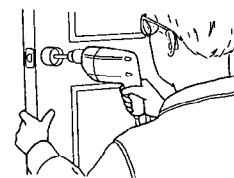

Fig. 8
9. Drill for lockset following the instructions provided by the lock manufacturer (Fig. 8). Generally, a 2 1/8" diameter hole is needed for a lockset. Templates are provided with the locks. The center of the hole for the lockset is usually 36" from the bottom of the door and either 1 3/8" or 1 3/4" from the edge, depending on your latch. For doors that have a